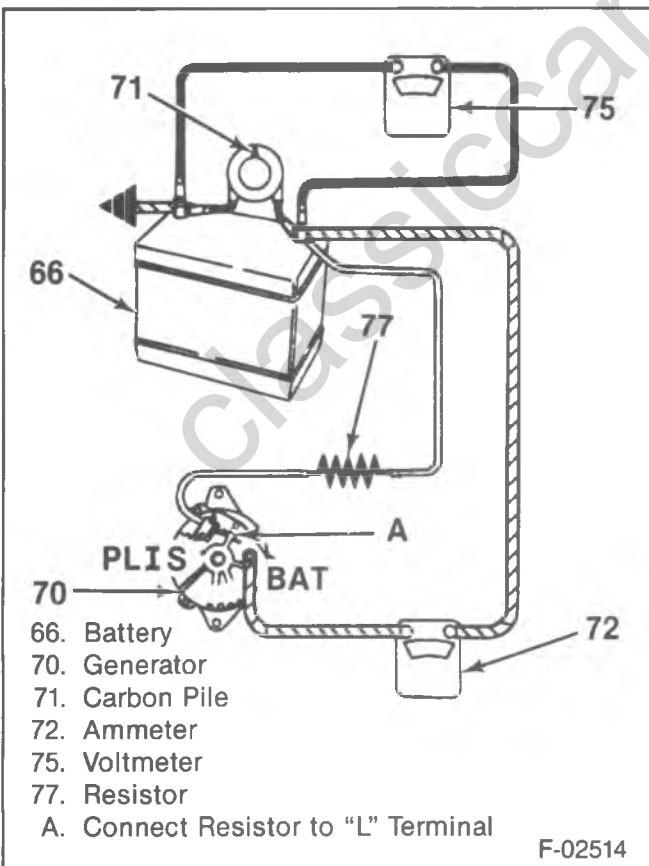

Figure 17—Connections for Generator Output Test
1. Make connections as shown in figure 17, except leave the carbon pile disconnected. The ground polarity of the generator and battery must be the same. The battery must be fully charged. Use a 30 to 500 ohm resistor between the battery and the "L" terminal.